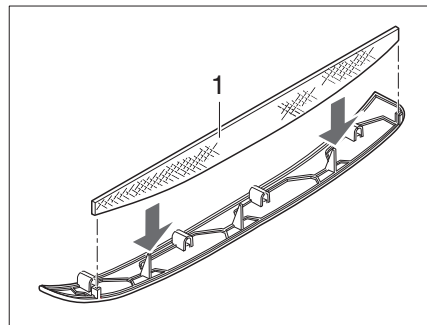
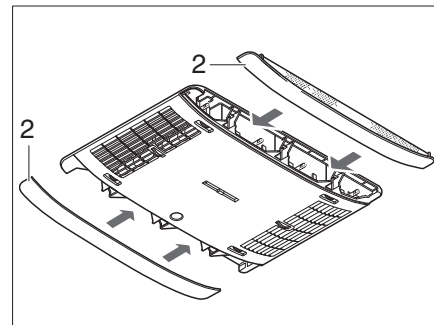

Fig. 154 Lint filter air conditioning unit
Fig. 155 Air conditioning unit panels
Two lint filters are located in the side panels (Fig. 155,2). The lint filters must be cleaned at regular intervals, at least every 6 months however, and replaced if necessary.
- Remove the panels (Fig. 155,2) from the air distribution unit and clean the lint filter (Fig. 154,1) or replace it if necessary.